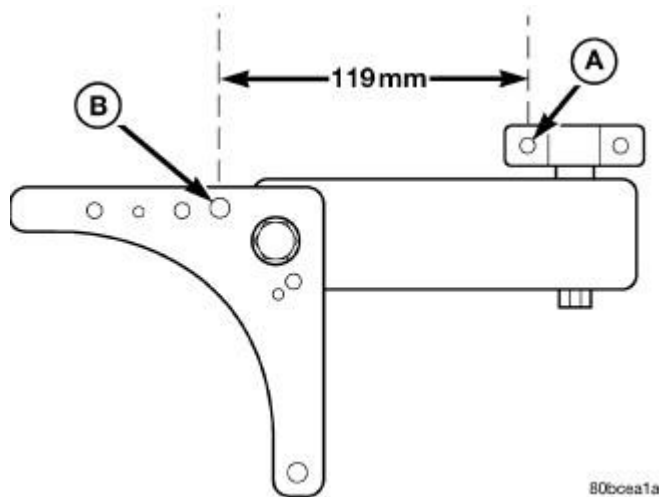

Fig. 190: Engine Position Measurement
6. Carefully apply upward force, allowing the upper engine to rotate rearward until the distance between the center of the rearmost attaching bolt on the engine mount bracket (point "A") and the center of the hole on the shock tower bracket (point "B") is 119 mm (4.70 in.). See Fig. 190 .